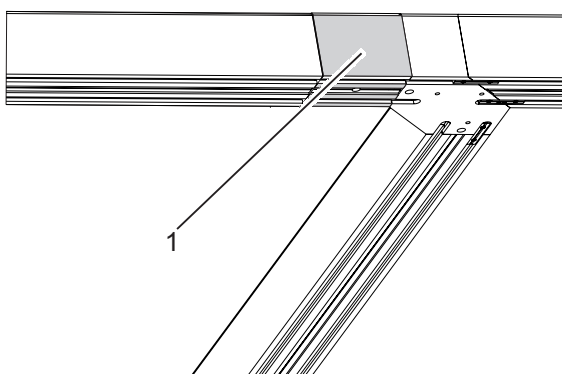

Fig. 2: Position of the revision piece directly in front of the stacking area
- ☞ The revision piece (Fig. 2/1) is part of the entire length of the tracks. Do not yet connect the revision piece as it will be removed again during the course of the assembly. The exact position of the revision piece is specified on the supplied system drawing.